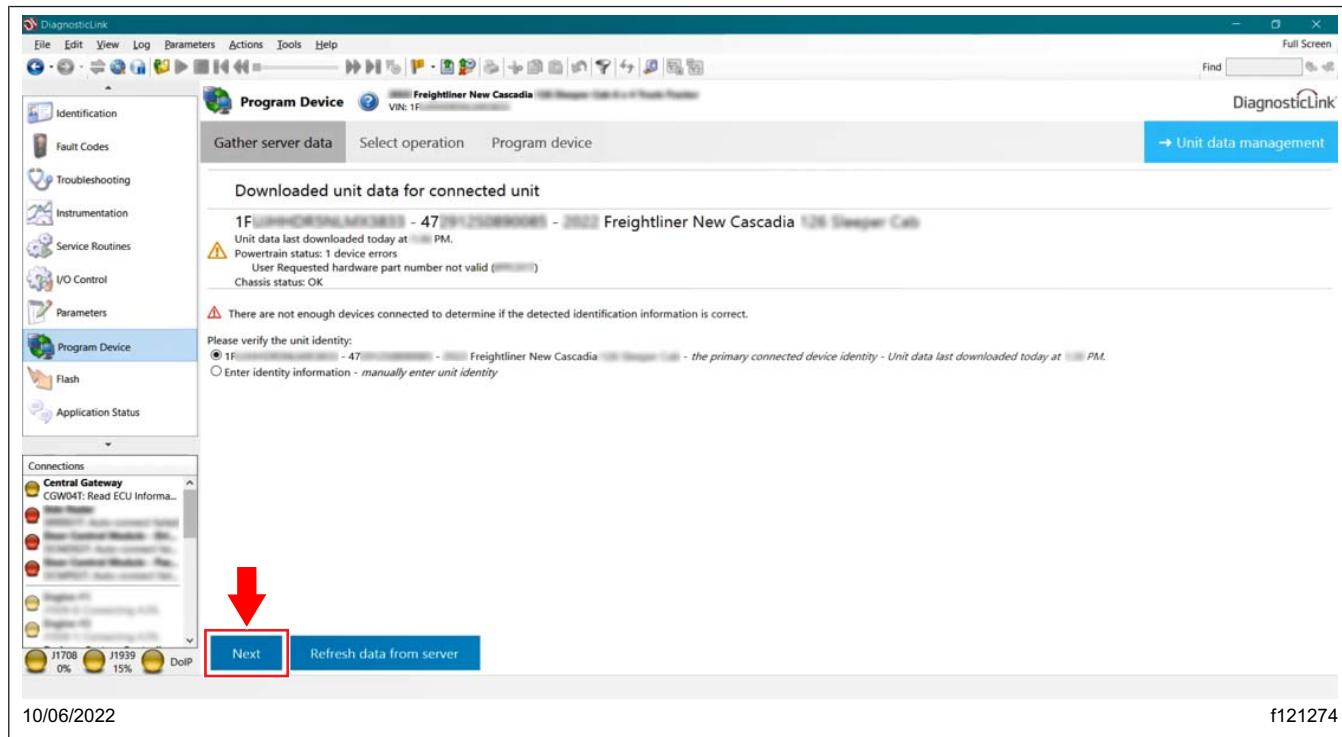

Fig. 31, Selecting Next
14. Once the latest data is retrieved, select 'Next.' See **Fig. 31.**